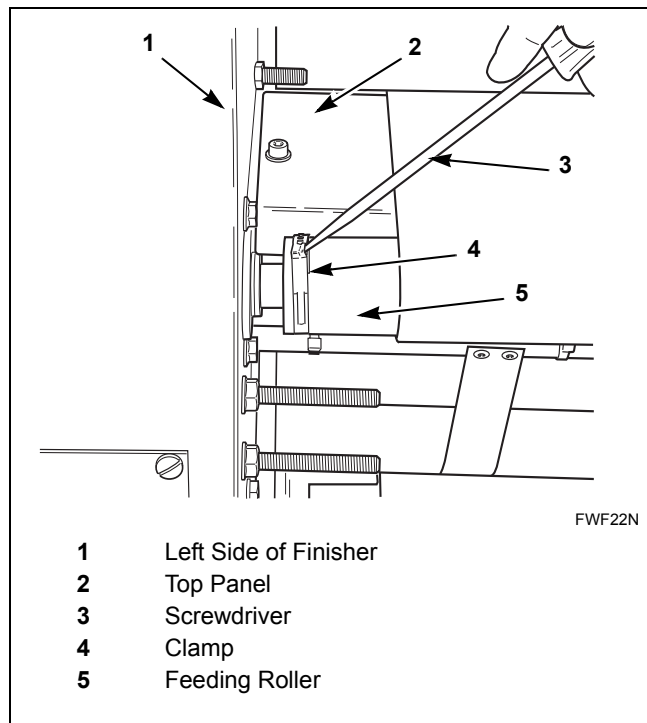

Figure 27
1. With a standard screwdriver, pop clamp open at left end of feeding roller. Refer to *Figure 27*.